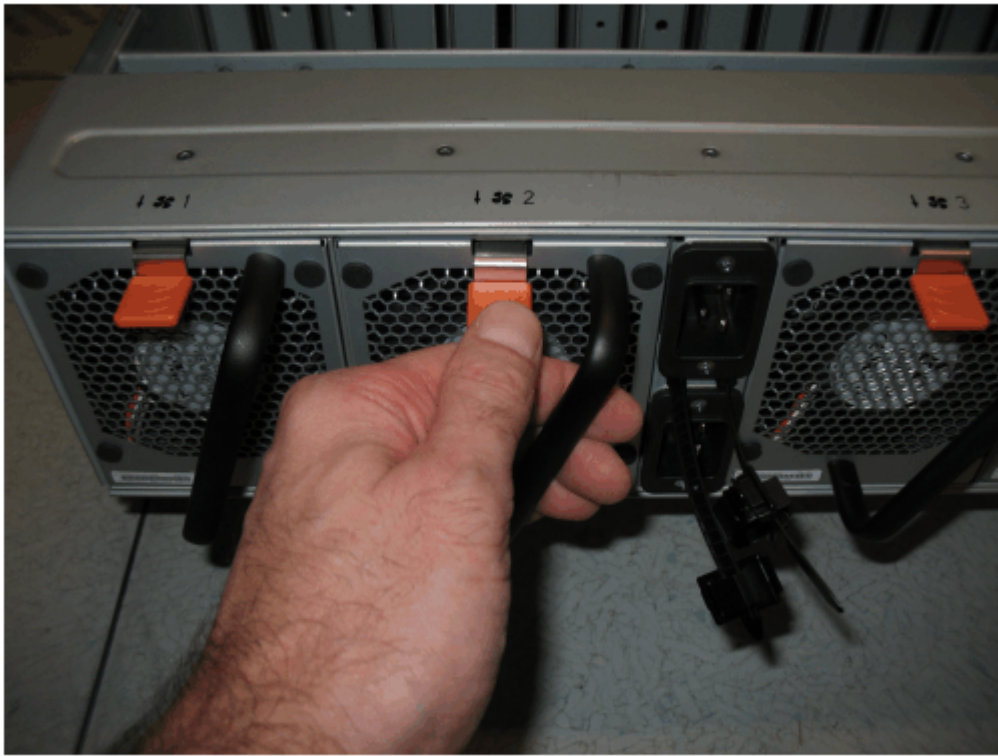

Figure 160. Fan module release tab
2. Press the release tab on the fan module, as Figure 160 on page 202 shows.